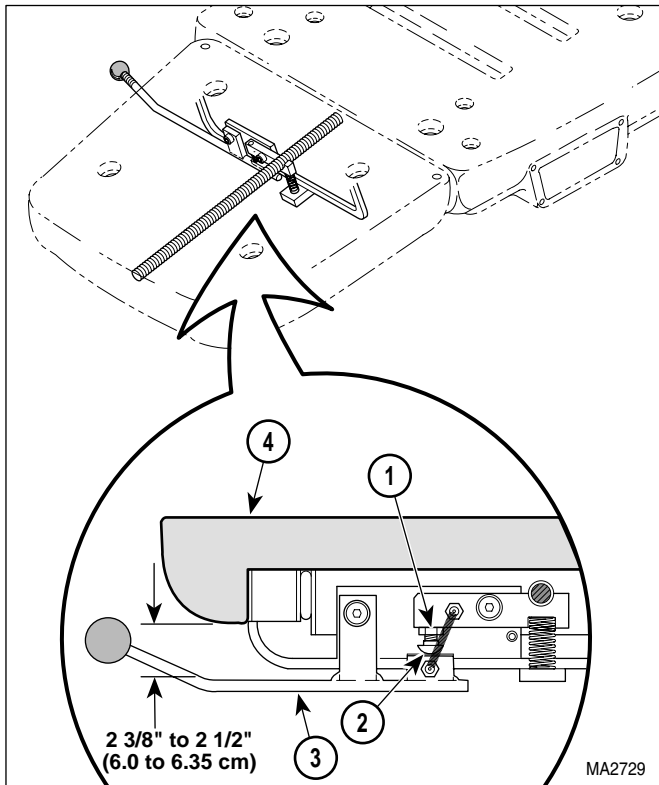

Figure 4-25. Foot Extension Release Lever Adjustment
- (1) Loosen jam nut (1, Figure 4-25).
- (2) Adjust carriage bolt (2) until there is a 2-3/8 to 2-1/2 in. (6.0 - 6.35 cm) gap between release lever (3) and plastic foot section (4).
- (3) Tighten jam nut (1).